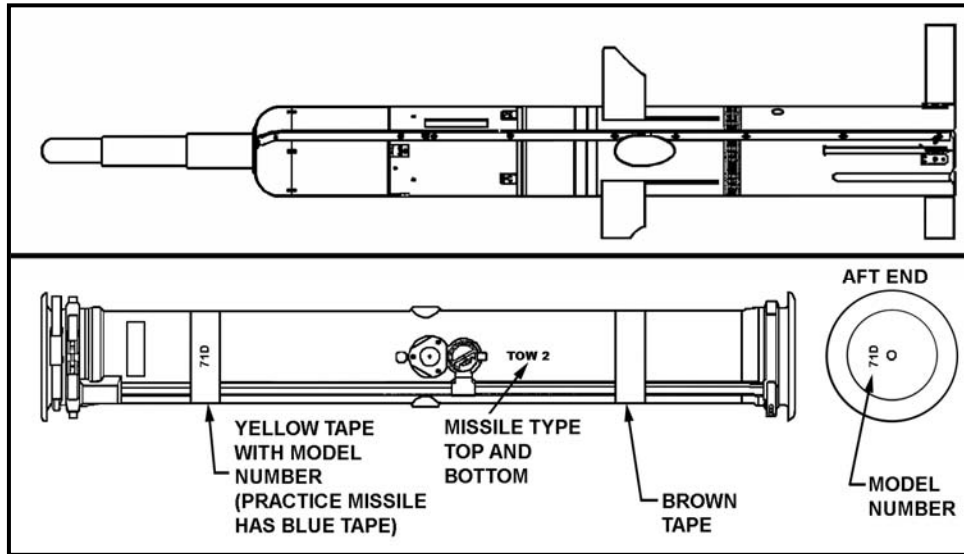

Figure 1-19. TOW 2 missile and identification.
c. **TOW 2 (BGM- and BTM-71D-Series)** (Figure 1-19, page 1-24). The TOW 2 missile (and the remaining TOW missiles discussed) has an enhanced tracking link and a 6-inch diameter warhead. The enhanced tracking link allows it to be guided successfully under a variety of environmental conditions, including rain and smoke. The 6-inch diameter warhead allows more explosive to be contained within the warhead. The TOW 2 warhead also has a probe with a crush switch that allows for better penetration of the warhead charge. As with ITOW, both the probe and the curved surface of the nose behind the probe are crush switches, which allows the warhead to detonate upon impact with the target. The TOW 2 missile has a range of 3,750 meters, and both HEAT and practice warheads are available.